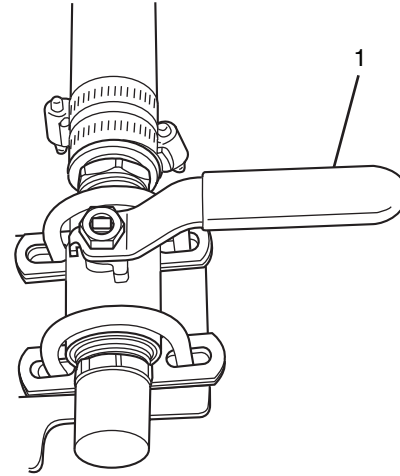

Figure 41
3. Open gate valve(s) (Figure 41, Item 1) and drain all hose(s) and pipe(s). Operate hose to drain hose and pipes.